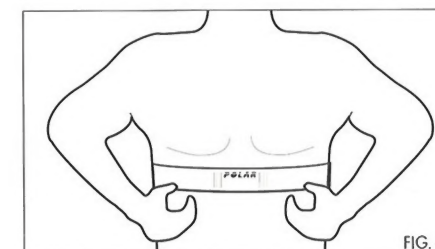

FIG. 4
- 3 The transmitter should be above your stomach and at the center of your chest, against your skin. (FIG. 4)